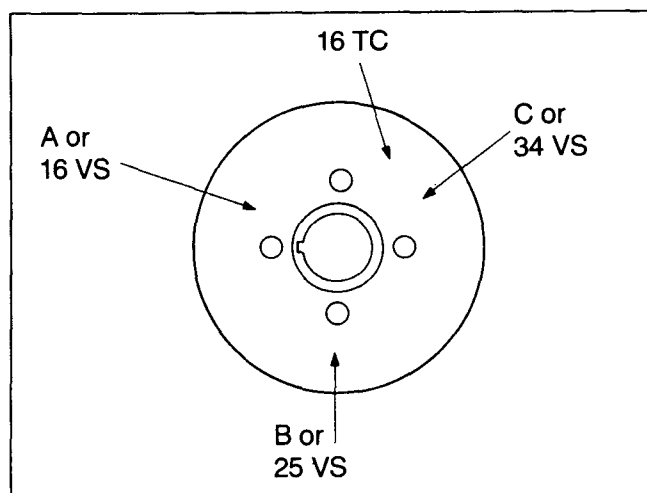

Fig. 2-42, (N114230). Accessory drive pulley marking — N-855
1. Bar engine until "A" or 1-6 "VS" mark on pulley, Fig. 2-42, is aligned with pointer on gear case cover. In this position, both valve rocker levers for cylinder No. 5 must be free (valves closed). Injector plunger for cylinder No. 3 must be at top of travel; if not, bar engine 360 degrees, realign mark with pointer.